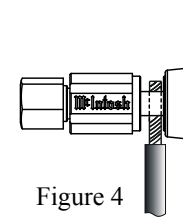

Figure 4
12. For the MC275 MONO Mode of operation, use the supplied Jumper Bars for connecting the Output of the Left and Right Amplifier Channels in parallel. Insert the Jumper Bar into the terminal side access hole of the LEFT OUTPUT (-) Negative Terminal post and the other end of the Jumper Bar into the RIGHT OUTPUT (-) Negative Terminal post. Tighten the terminal caps until the Jumper Bar is firmly clamped into the terminals so the Jumper Bar cannot slip out nor touch the chassis. Refer to Connection Diagram located on the separate folded sheet “**Mc1B**”. Also refer to figures 4, 5 and figure E.